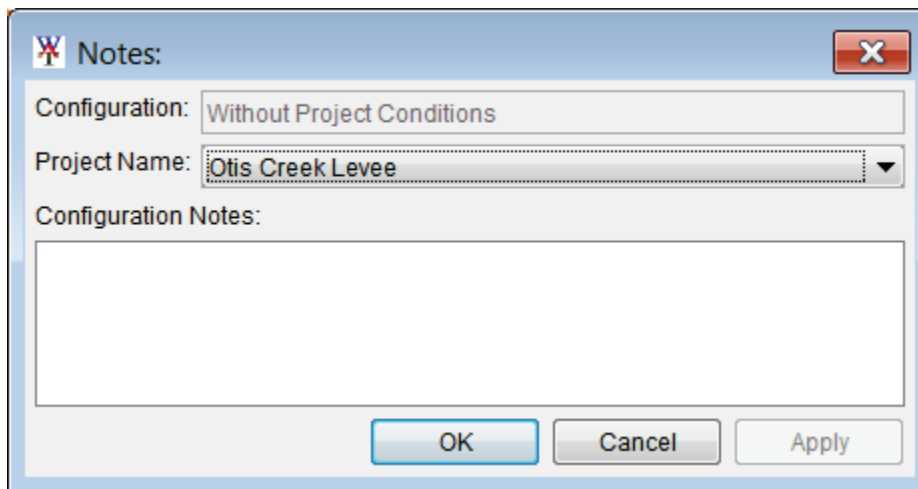

Figure G.18 Notes: Dialog Box - Levee
2. The **Notes:** dialog box will open (Figure G.18). Enter information in the **Configuration Notes** box that describes the selected levee for the current schematic.